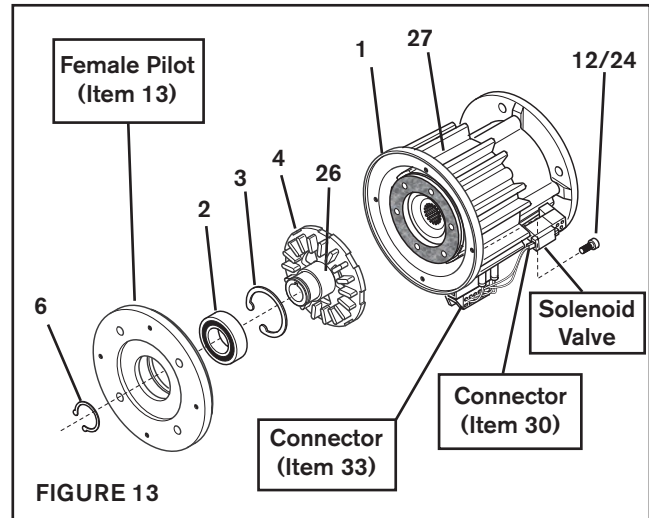

FIGURE 13
If an Input Unit is installed on the FMCE, it must be removed before servicing the FMCE. Remove the Plug (Item 27) and loosen the Set Screw (Item 26) to release the FMCE from the Input Unit (See Figure 13).
1. Disconnect the Red and Black leads from the Connector (Item 30), located on the Solenoid Valve, from Terminals 5 and 6 of the Connector (Item 33) by pushing a screwdriver into the slot on the top of the Connector; then, pull the two leads from the Solenoid Valve out of the Connector (See Figure 13).
2. Remove the four Socket Head Cap Screws (Item 24) and remove the Female Pilot (Item 13) from the FMCE Housing (Item 1) (See Figure 13).
3. Remove the Retaining Ring (Item 6) (See Figure 13).
4. Press the Drive Disc (Item 4) out of the Bearing (Item 2) and the Female Pilot (Item 13) (See Figure 13).
5. Remove the Retaining Ring (Item 3) (See Figure 13).
6. Fully supporting the Female Pilot (Item 13), press the old Bearing (Item 2) out of the Female Pilot (Item 13) (See Figure 13).
7. Clean the bearing bore of the Female Pilot (Item 13) with fresh safety solvent, making sure all old Loctite® residue is removed (See Figure 13).
8. Apply an adequate amount of Loctite® 680 to evenly coat the outer race of the new Bearing (Item 2) (See Figure 13).
9. Carefully align the outer race of the new Bearing (Item 2) with the bore of the Female Pilot (Item 13) (See Figure 13).
10. Supporting the Female Pilot (Item 13) and pressing on the outer race of the new Bearing (Item 2), press the new Bearing into the Female Pilot (See Figure 13).
11. Reinstall the Retaining Ring (Item 3) (See Figure 13).
12. Support the inner race of the new Bearing (Item 2) and press the Drive Disc (Item 4) into the new Bearing and Female Pilot (Item 13) (See Figure 13).
13. Reinstall the Retaining Ring (Item 6) (See Figure 13).
14. Apply a drop of Loctite® 242 to the threads of the Socket Head Cap Screws (Item 24) (See Figure 13).
15. Slide the Female Pilot (Item 13), Bearing (Item 2), and Drive Disc (Item 4) into the FMCE and reinstall the four Socket Head Cap Screws (Item 24) (See Figure 13).
16. Alternately and evenly tighten the four Socket Head Cap Screws (Item 24) to the recommended torque (See Figure 13 and Table 6).